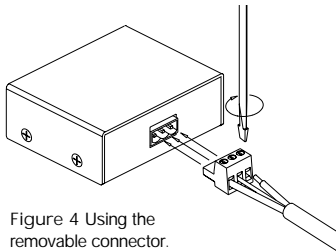

Figure 4 Using the removable connector.
3. Make the connections to the TIR1+. Locate the connector on the TIR1+ and remove it. See (Figure 4).